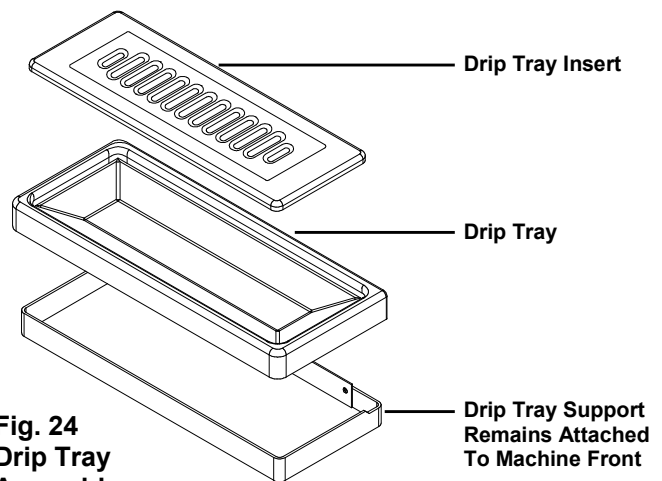

Fig. 24
3. Install the drip tray and drip tray insert (Fig. 24).